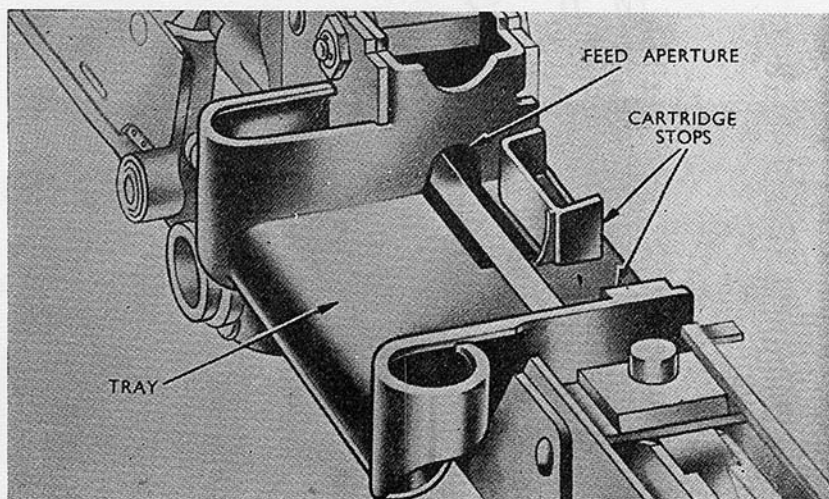

Fig. 10.—The feed tray
- e. At the end of the sightsetting demonstration, point out the cartridge stop to the soldiers in preparation for the loading demonstration. (See Fig. 10.)